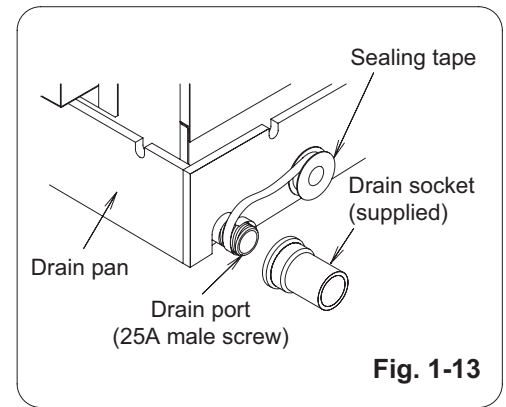

Fig. 1-13
- (1) Prepare standard hard PVC pipe (O.D. 32 mm) for the drain and use the supplied drain socket to prevent water leaks. The PVC pipe must be purchased separately. When doing this, apply adhesive for the PVC pipe at the connection point.
- (2) If connecting a drain socket (supplied) to the threaded drain port, first wrap the drain port threads with sealing tape, then connect the joint. (Fig. 1-13)